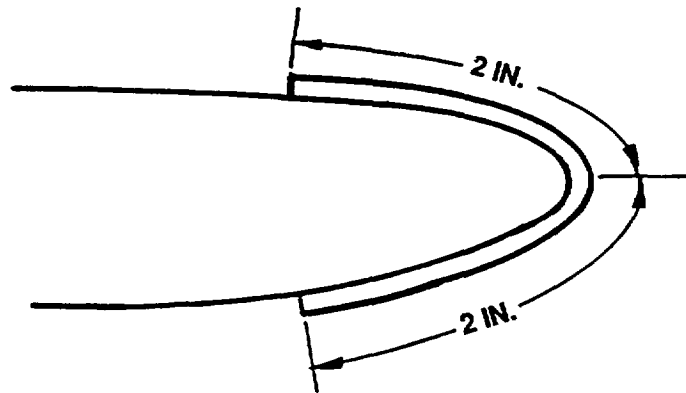

Figure 3-21. Tape Alignment, Main Rotor (OH-58A/C)
**Perform Steps (6) through (9) for one blade at a time.**
- (6) Application of Adhesive Promoter. Apply a thin coat of No. 86 adhesive promoter to the masked area where the first 6-inch long piece will cover, as shown in figure 3-21. Allow to dry at least five minutes, but not more than one hour before applying tape.
- (8) Tape Alignment. Align the tape in the position shown in figure 3-21 before pressing to blade.